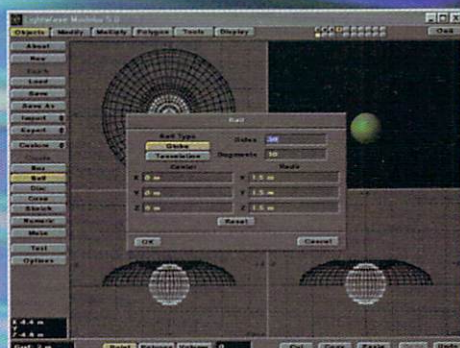

Figure 5
15. Now we'll create a sphere in the center. Select an unused layer in the top layer column. From the Objects menu select Ball and then Numeric. Enter the following values (see Figure 5):